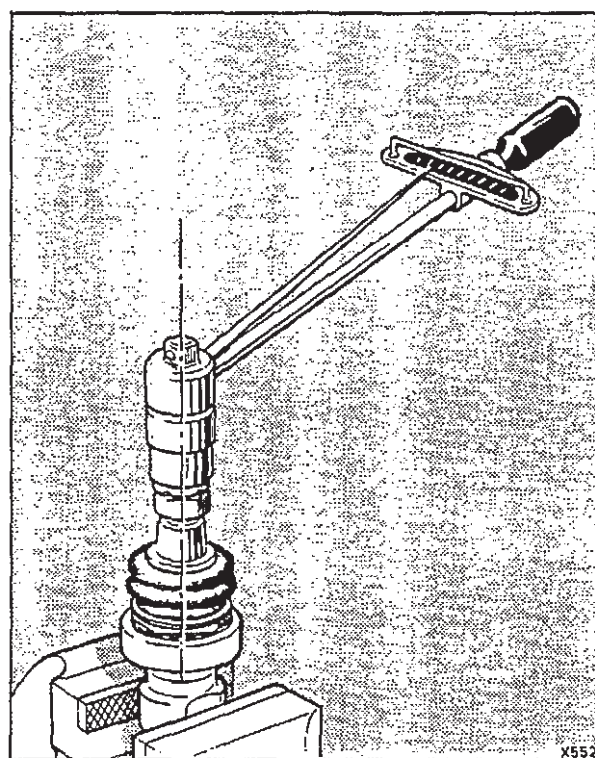

Fig. H3-6 Checking the ball joint pre-load
2. Hold the ball joint housing in a vice. Screw the new ball pin assembly into the housing without fitting the pre-load shims. Fit and lock together two nuts onto the ball pin, (see fig. H3-6).